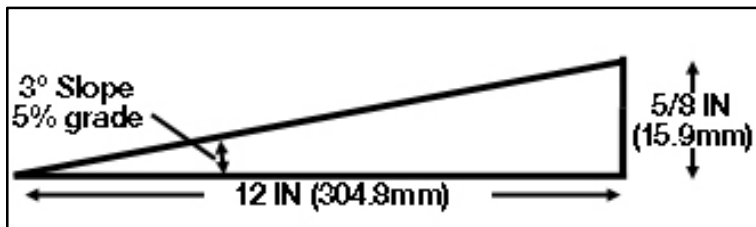

Fig. 4: Slope of ground under lift
2. Use the lift system only on level, even surfaces. A level surface is considered to be 3° slope or less. A surface with 3° slope is equivalent to a 5% grade or 5/8 in. (15.9 mm) rise or drop per horizontal foot (304.8 mm) (See Fig. 4 below. Note also that for each degree of slope a surface rises or drops 0.210 in. (5.33 mm) per horizontal foot (304.8 mm)). The surface must also be free of ripples, ridges, depressions, holes, or any undulation (e.g., a seam in a concrete floor) that would cause only part of the lift unit's footprint to be in contact with the floor.